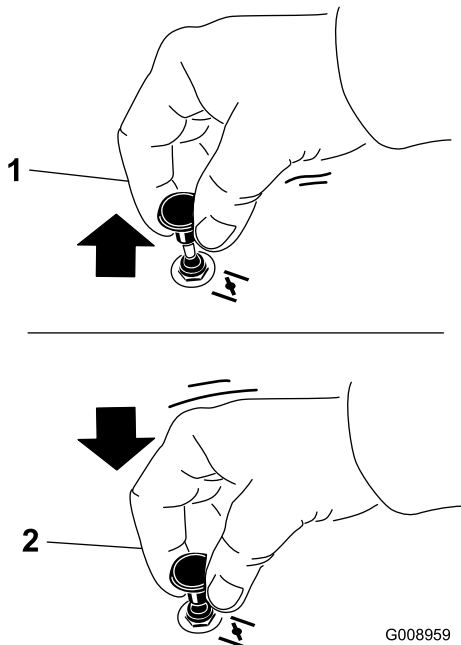

Figure 12
1. Pull up the choke knob to engage the choke before using the ignition switch (Figure 12).
2. Push down the choke knob to disengage the choke after the engine has started (Figure 12).